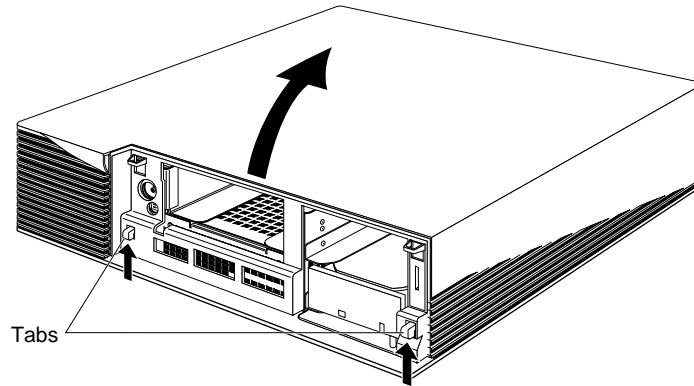

Figure 3-3 Removing the top cover from the Indigo² chassis
4. Rotate the cover back and away from the chassis, as shown in Figure 3-3.